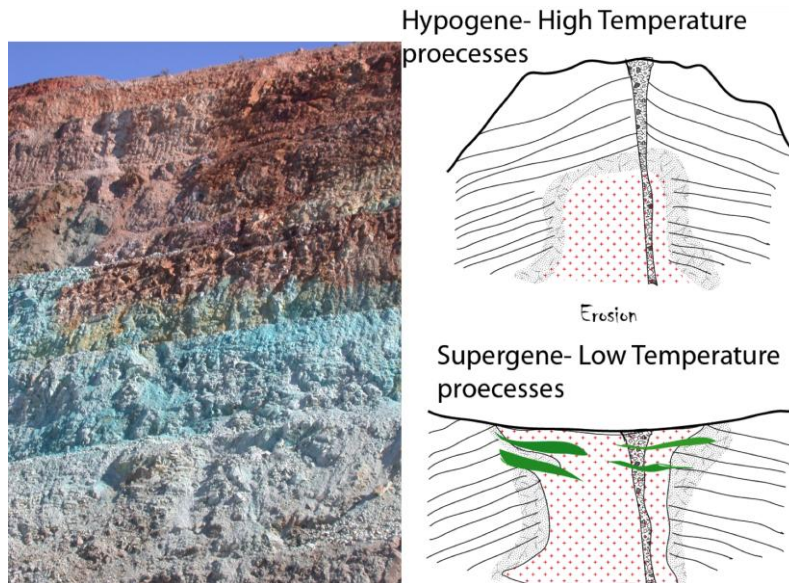

Figure 3
How do these deposits form? Figure 3, which represents the innards of a volcano, depicts the general processes that occur in these systems. In general there are two processes:
1. *High temperature process (listed as Hypogene—High Temperature process in Figure 3).* In the cross section the volcano has a depth of 3Km. The magma releases a fluid, which I'm
2. *Weathering and erosion process (listed as Supergene—Low Temperature process in Figure 3).* Over time these mountains weather and erode away. I've shown in the bottom portion of Figure 3 this process where you strip away all the shallow volcanic rocks and you then expose all the innards. When you expose these sulfide minerals that were once in the hypogene by this supergene process you create an acid mine drainage process where pyrite goes into solution to make acidic waters, like you have at Sky Top in State College. The weathering process serves to enrich the copper into greater and greater degrees in lower portions of the crust.
We know there are lots of areas in the earth that are covered with rocks at the surface with iron oxides in them or oxidized iron in them but that don't have copper at depths. So the question is, how can we use what we have at the surface to detect or figure out what we have underneath, like in Figure 3? This is a big problem in many of these ore deposits. Figure 4 addresses this issue.